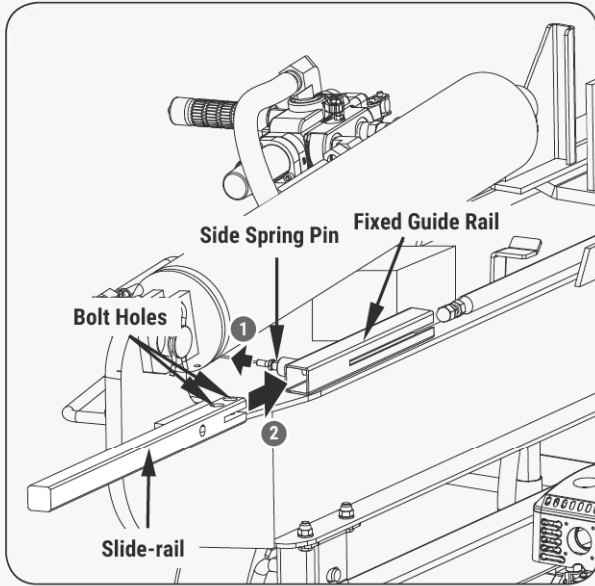

Figure 17a
1. Pull out the side spring pin and insert the slide-rail through the fixed guide rail until the two bolt holes on the slide-rail are fully exposed. (See **Figure 17a.**)